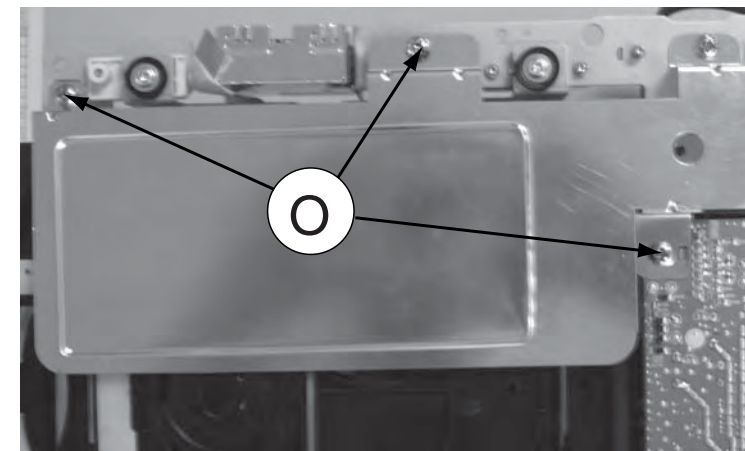

Figure 16
- 1) Loosen 3 screws "O" on the plate_Tin as shown in figure 16.